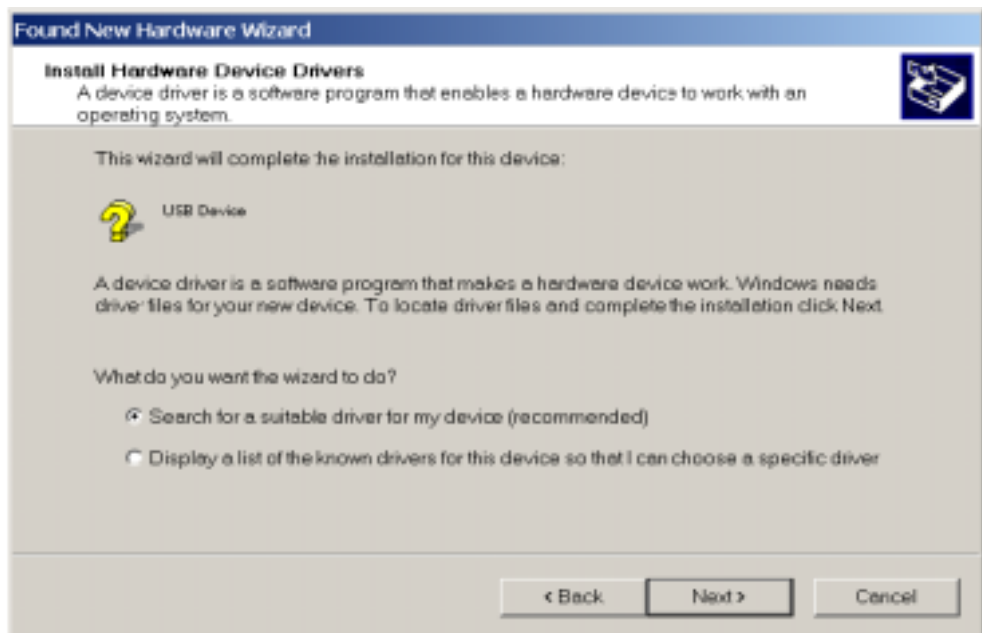

Figure A-3
3. Click on Next and system will display the window as shown in Figure A-3.